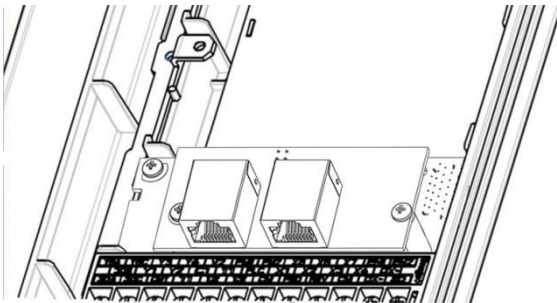

Figure 7: Interface Card Mounting Completed
4. Secure the interface card to the connector board PCB by first tightening the captive M3 x 25mm screw into the inverter standoff located at the lower-right hand corner of the interface card. Next, install and tighten the included M3 x 6mm screw into the standoff mounting hole located at the upper-left hand corner of the interface card. Refer to Figure 7.